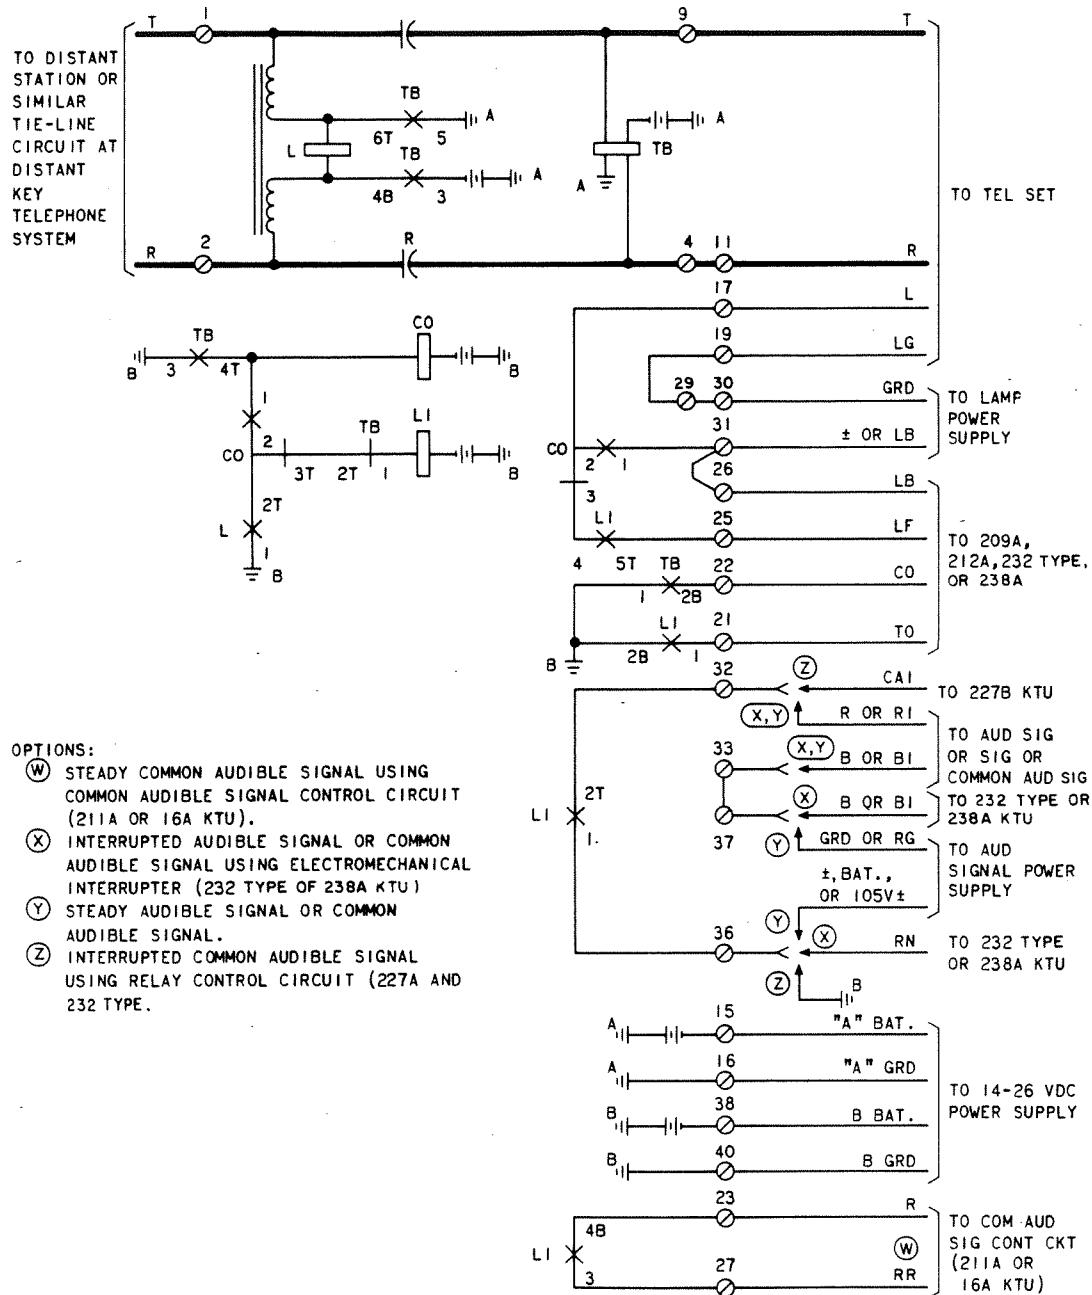

Fig. 5—Functional Schematic of 203A KTU (Automatic Tie Line Circuit)
2.08 The 203A KTU (Fig. 5) is used on private (tie) lines to provide: